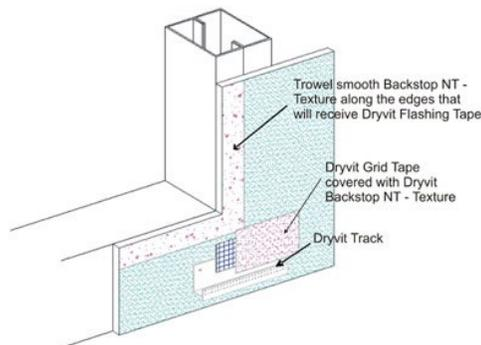

Fig. 18
- a) For concrete and masonry, ensure that a continuous film of uniform thickness is applied across the entire surface and across mortar joints. Minimum two (2) coats are required allowing a minimum of two (2) hours between coats. Cool, damp weather may require longer time between coats.
- 4) While the Backstop NT - Texture is still wet, using a trowel or spatula, smooth out the Backstop NT - Texture around all window and door perimeters and other areas that will later receive Dryvit Flashing Tape - Figure 18.
- 4) While Backstop NT - Texture is still wet, using a trowel or spatula, smooth out the Backstop NT - Texture around all window and door perimeters and other areas that will later receive Dryvit Flashing Tape – Figure 18.